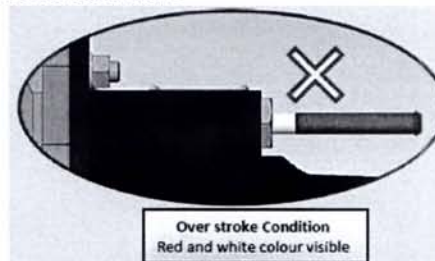

Figure 2: Piston Over Stroke Condition
- c. If the piston stroke indicator extended more than 75mm, (Two colors showing), then make another application. If, after the second Full-service application, the piston stroke indicator extended less than 75mm (Only red color showing – See Figure 2), then the BMBS and the bogie has no cause for attention.